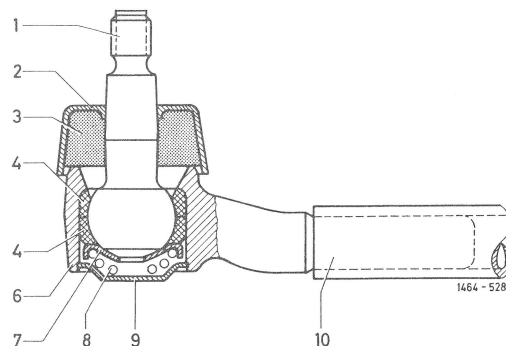

Fig. 4
- 5 Place new foam rings (3) and plastic caps (2) on ball pin (1) (Fig. 4).